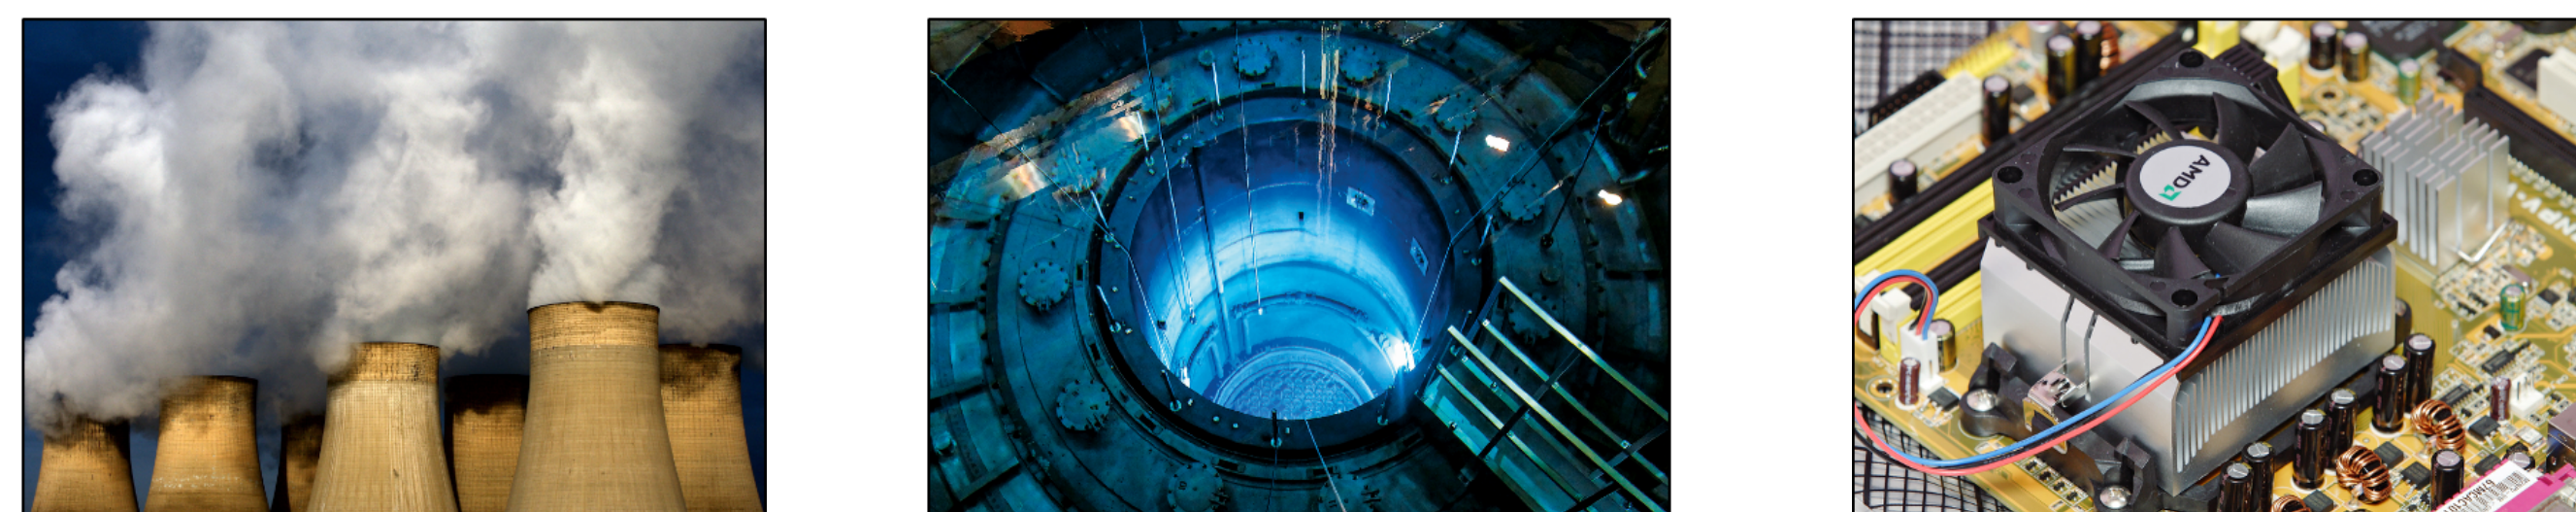

Figure 1. Thermal Management Challenges Across Applications.
- Efficient cooling is critical across scales, from power plants & nuclear reactors to compact electronics (Fig. 1).